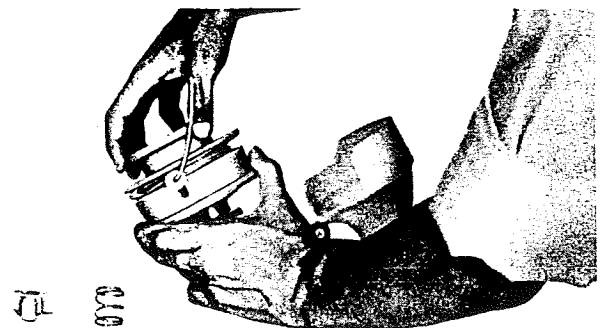

Figure 23
2. Separate interspool from housing. Figure 23.